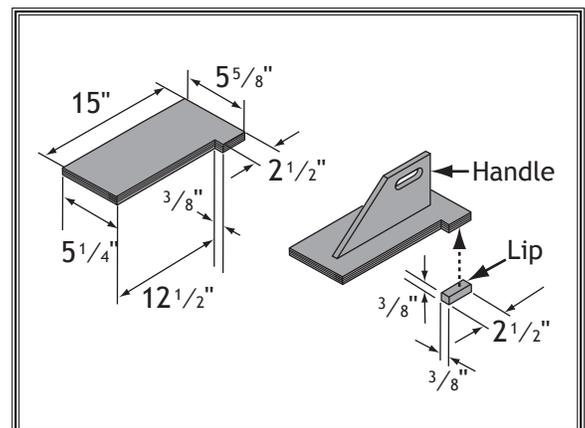

Figure 92. Push block dimensions and construction.
3. Using $\frac{3}{4}$ " material you used in previous steps, cut out pieces for push block per the dimensions shown in **Figure 92**; for handle, cut a piece 10" long by 5"-9" high and shape it as desired to fit your hand.